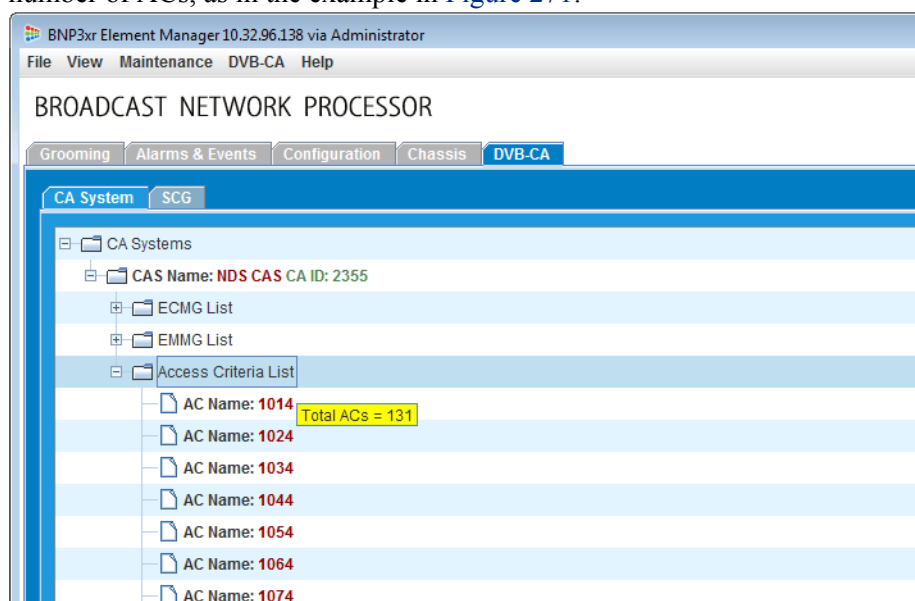

Figure 271. Access Criteria List - Total ACs
3. Highlight the **Access Criteria List** folder. The **TOTAL ACs** pop-up will give a count of the total number of ACs, as in the example in Figure 271: